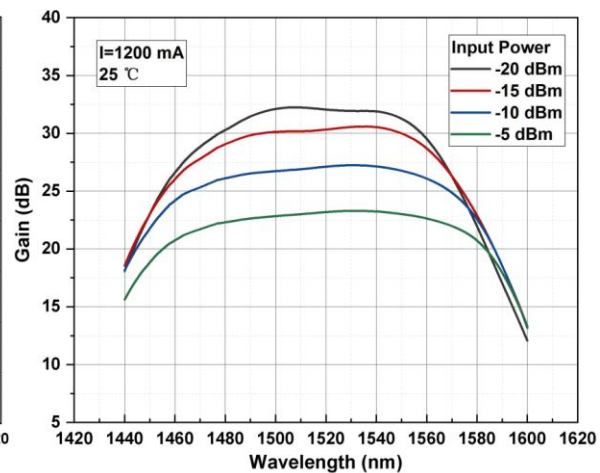

Figure 6. Gain Spectra
- Noise figure: 6 dB typical, 8 dB maximum